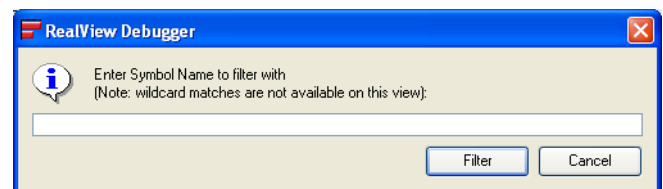

Figure 9-16 Filtering on a symbol name match
1. Select **Filter** → **Filter on Symbol Name...** from the Analysis window menu to open the Prompt dialog box. Figure 9-16 shows an example: